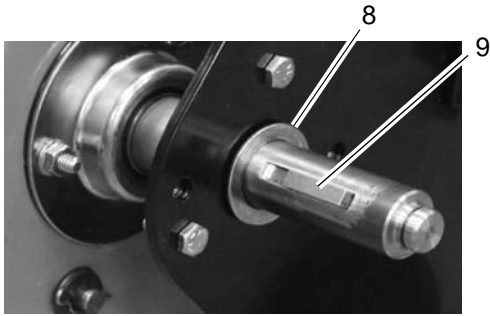

Figure 13
18. Install flat steel washer (item 8) onto track drive axle (item 3) followed by rectangle key (item 9). Repeat on other side of unit. See Figure 13.